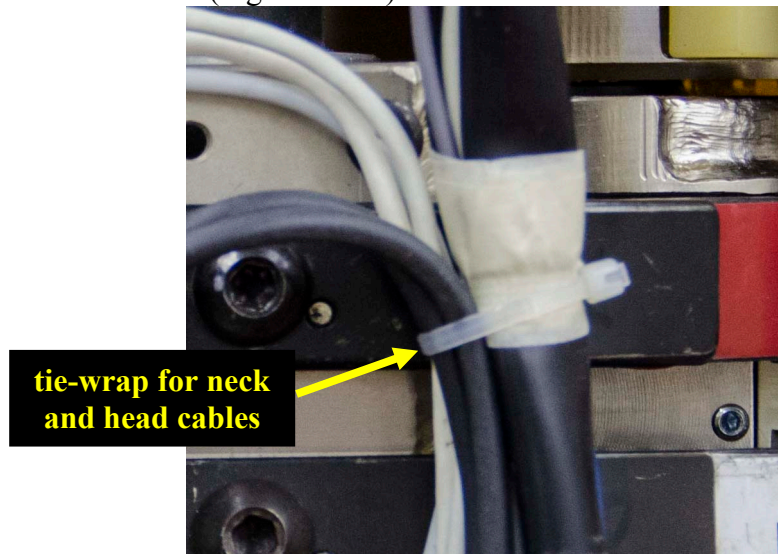
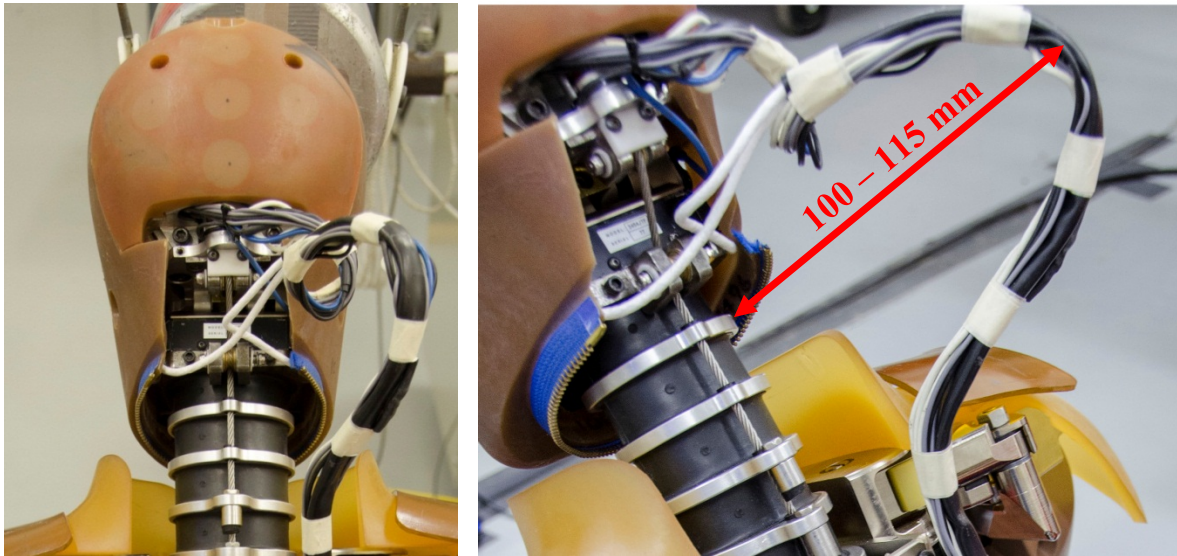

Figure 15-22. Bundle the neck cable, T1 accelerometer wires, lower neck tilt sensor and lower neck load cell cables and attach to Rib #1
Figure 15-23. Assure sufficient slack in head cable
- 15.4.2.3 Use the cable-tie on rib #1 to bundle the neck cable, the T1 accelerometer wires, lower neck tilt sensor, and the lower neck load cell cables (Figure 15-22). Route the cabling posterior to the hanger strap to avoid cable damage when the dummy is suspended. To check that there is enough slack in the head cable for neck flexion and extension, pull the bundle (gently) away from the neck; there should be approximately 100 mm – 115 mm of space between the instrumentation cable and the neck. Attach the cables to the anchor on rib #1 (Figure 15-23).